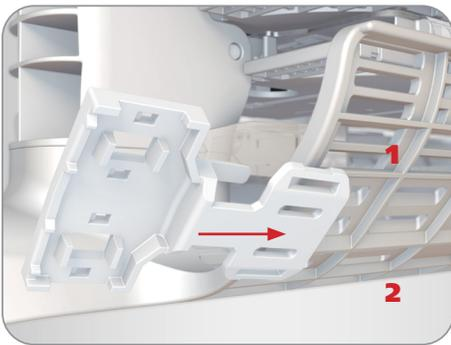

Figure 11
1. Install the empty Mesh Basket Adapter onto Apex basket by aligning with two strength ribs on the bottom of the basket. Snap Adapter into place and ensure it is locked and will not slide side to side (**Figure 11**).